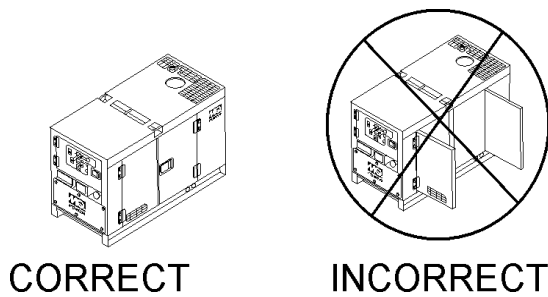

Figure 32. Engine Enclosure Doors
4. Close all engine enclosure doors (Figure 32).